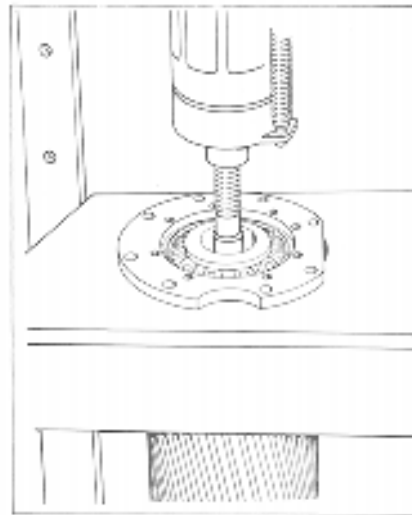

Fig. 29. Extracting Pinion Shaft from Bearing Container.
3. Remove cap screws securing bearing container and remove bearing container (pinion shaft will accompany bearing container). Rear commutator should be held so that pinion shaft slides out freely. See fig 29.
3. With suitable press extract pinion shaft out of bearing container. See figure 29.